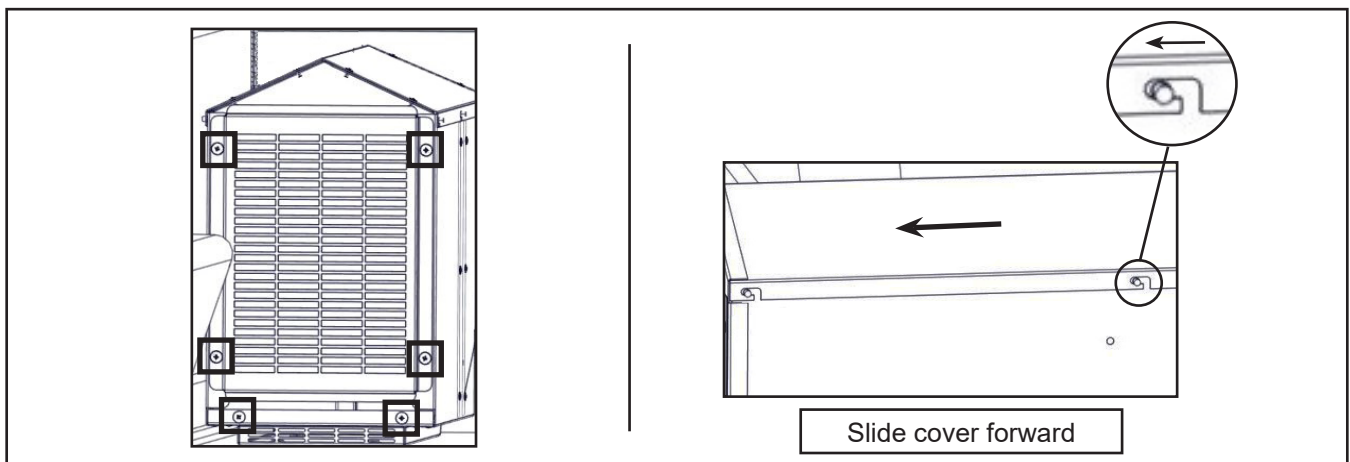

Figure 3 - Remove the Air Filter and the Cover
- 1.5. In the front of the heater boxes, remove the top four screws to remove the air filter. Remove the two last screws at the bottom and slide the box cover forward to remove it (Figure 3). Keep all the parts.